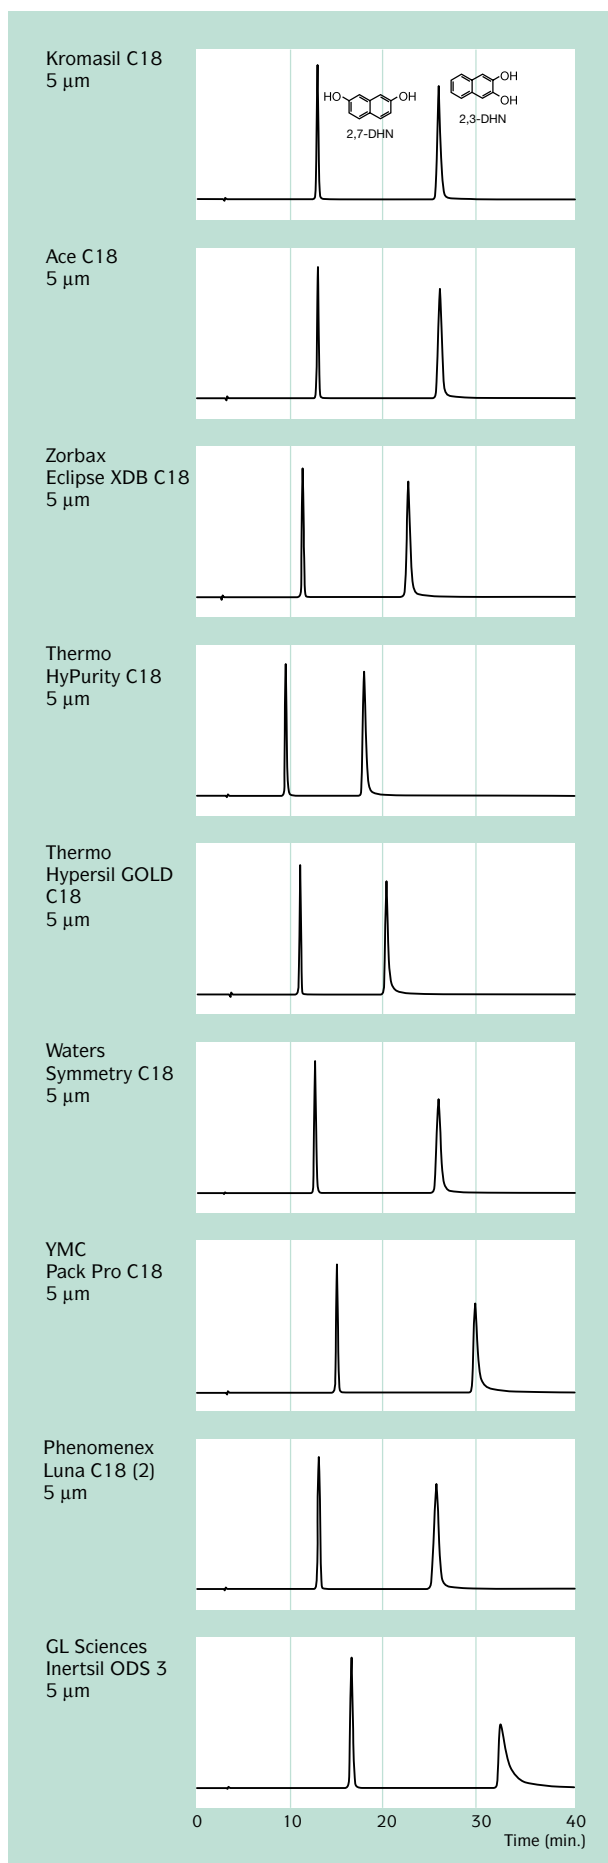
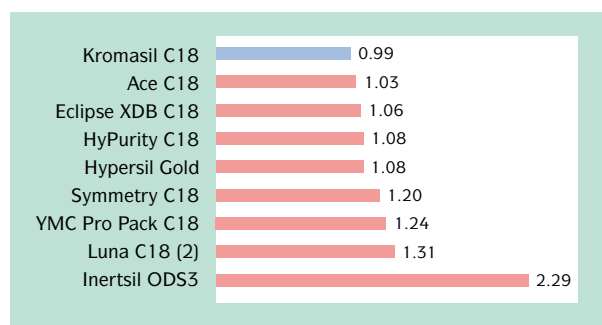

Figure 4 | Chromatograms from the DERT.
Figure 5 | Summary of the DERT-values.
In order to visualize the difference in metal ion content and the impact thereof we investigated eight commercially available 5 µm-C18 phases. We performed the DERT and compared the outcome with a Kromasil 5 µm-C18 column. In figure 4 you will find the chromatograms and in figure 5 we have summarized the result by showing the DERT-value ($= N_{2,7-DHN} / N_{2,3-DHN}$) for the investigated phases. The plate count (N) between 2,3-DHN and 2,7-DHN should ideally be identical, i.e. the DERT-value should be close to 1!